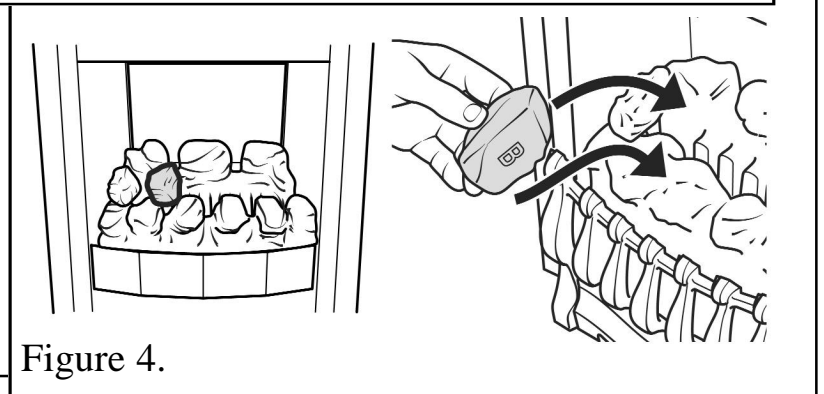

Figure 4.
4. Place a type “B” coal between the front and rear base coals as shown in figure 4. The letter “B” should be upright.